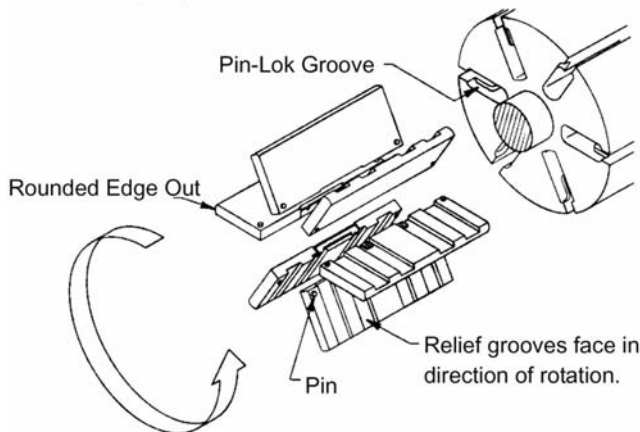
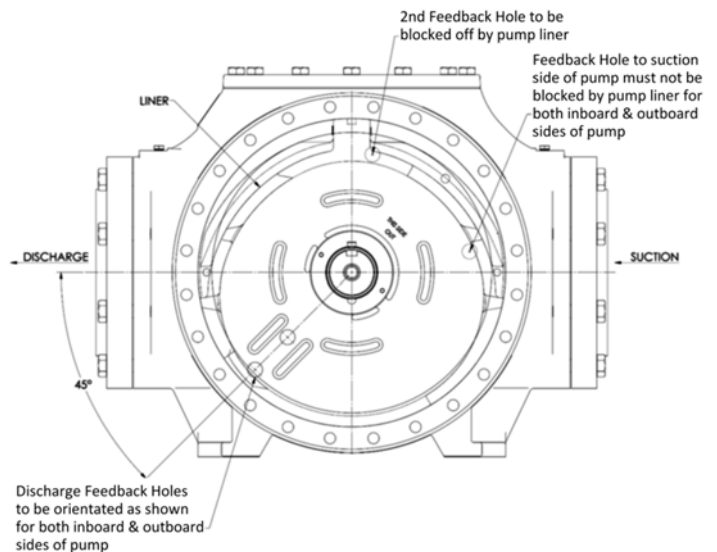

Figure 5 – Vane Installation
Figure 9 – Disc Orientation
- Remove the vanes (14) and push rods (77) from the rotor and shaft assembly. Inspect for wear and damage, and replace as follows:
- Insert the three push rods (77) into the rotor.
- Insert the vanes into the rotor slots with the relief grooves facing in the direction of pump rotation, and with the rounded edges outward. See Figure 5.
- Place small amount of Loctite # 220 onto capscrews (155), thread fully into rotor holes through sleeve. Torque to 200 inlbf (22.6 Nm).
- Using a hoist, install the disc in the casing with the smooth side of the disc towards the casing (seal cavity outward) and the pressure relief hole 45 degrees downward from the discharge side of the casing. The seal cavity feedback hole should be exposed into inlet area of pump. (SEE FIGURE 9). There exists a 2nd feedback hole in each disc which should be fully covered by the liner near the seal point when properly oriented.